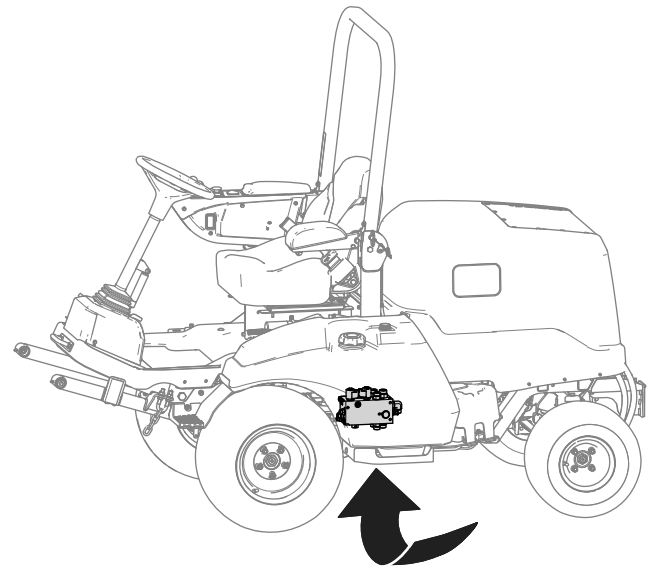

Figure 21
- Locate the lift manifold from under the machine (Figure 21).